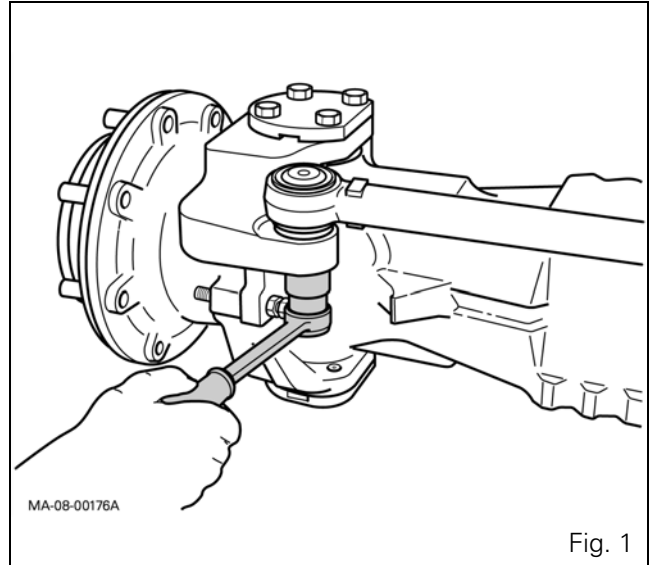

Fig. 1
5. Loosen the selector rail locknut by several turns until it is at the same level as the threaded stud (Fig. 1).